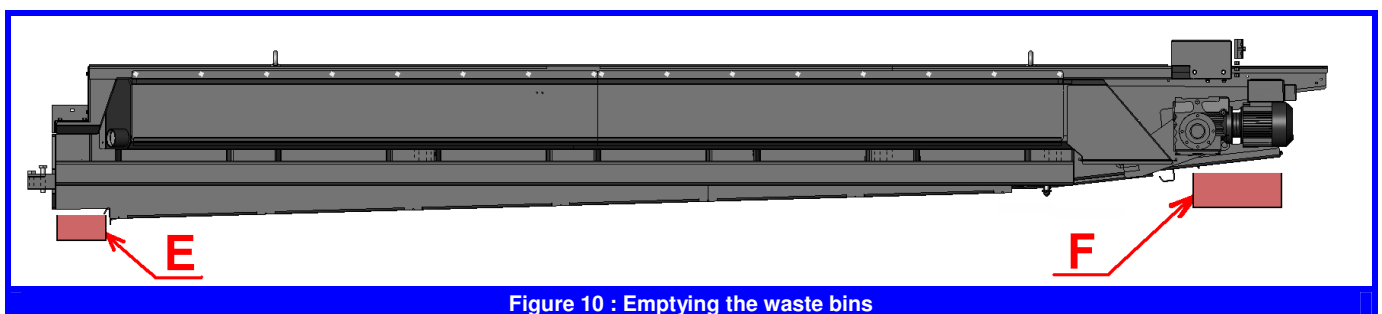

Figure 10 : Emptying the waste bins
The emptying of the waste bins on the return (E) and unloading (F) should this happen, must be performed regularly to avoid jeopardizing the operation of the conveyor (Figure 10).